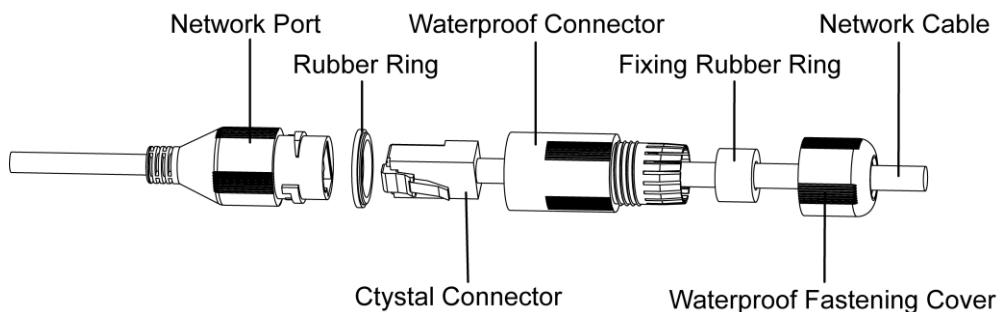

Figure 2-3
**Step 4** (Optional) Install waterproof connector for network port, which is shown in Figure 2-3.